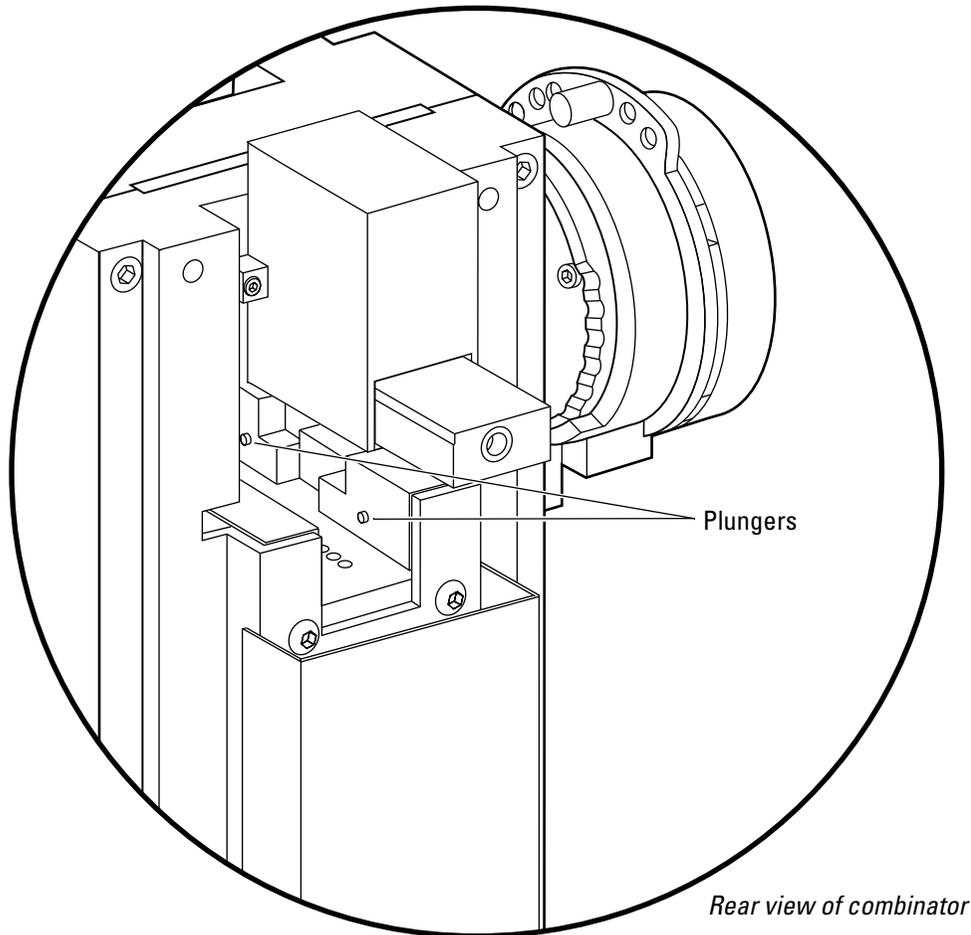

Figure 3.11 Depressing the key carriage plungers
4. Locate the spring-loaded plungers along the side rail of the top plate. See Figure 3.11.
5. From the rear of the combinator, press in each spring-loaded plunger with a screwdriver so that the key carriage can slide past. See Figure 3.11.